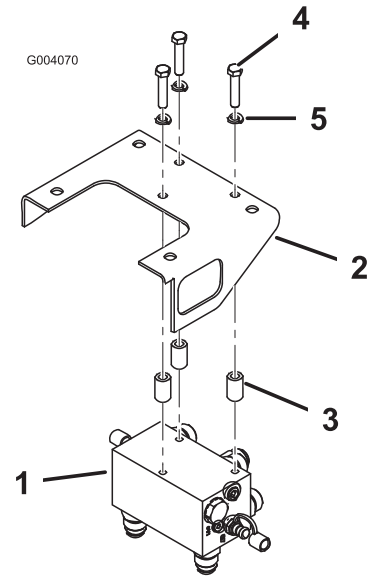

Figure 5
4. Mount the manifold assembly to the underside of the manifold bracket with 3 bolts (3/8 x 1-3/4 inches), lock washers (3/8 inch) and spacers. Position the spacers between the manifold bracket and the top of the manifold. The manifold is to be positioned so the fittings point to the rear, and down (Figure 5).